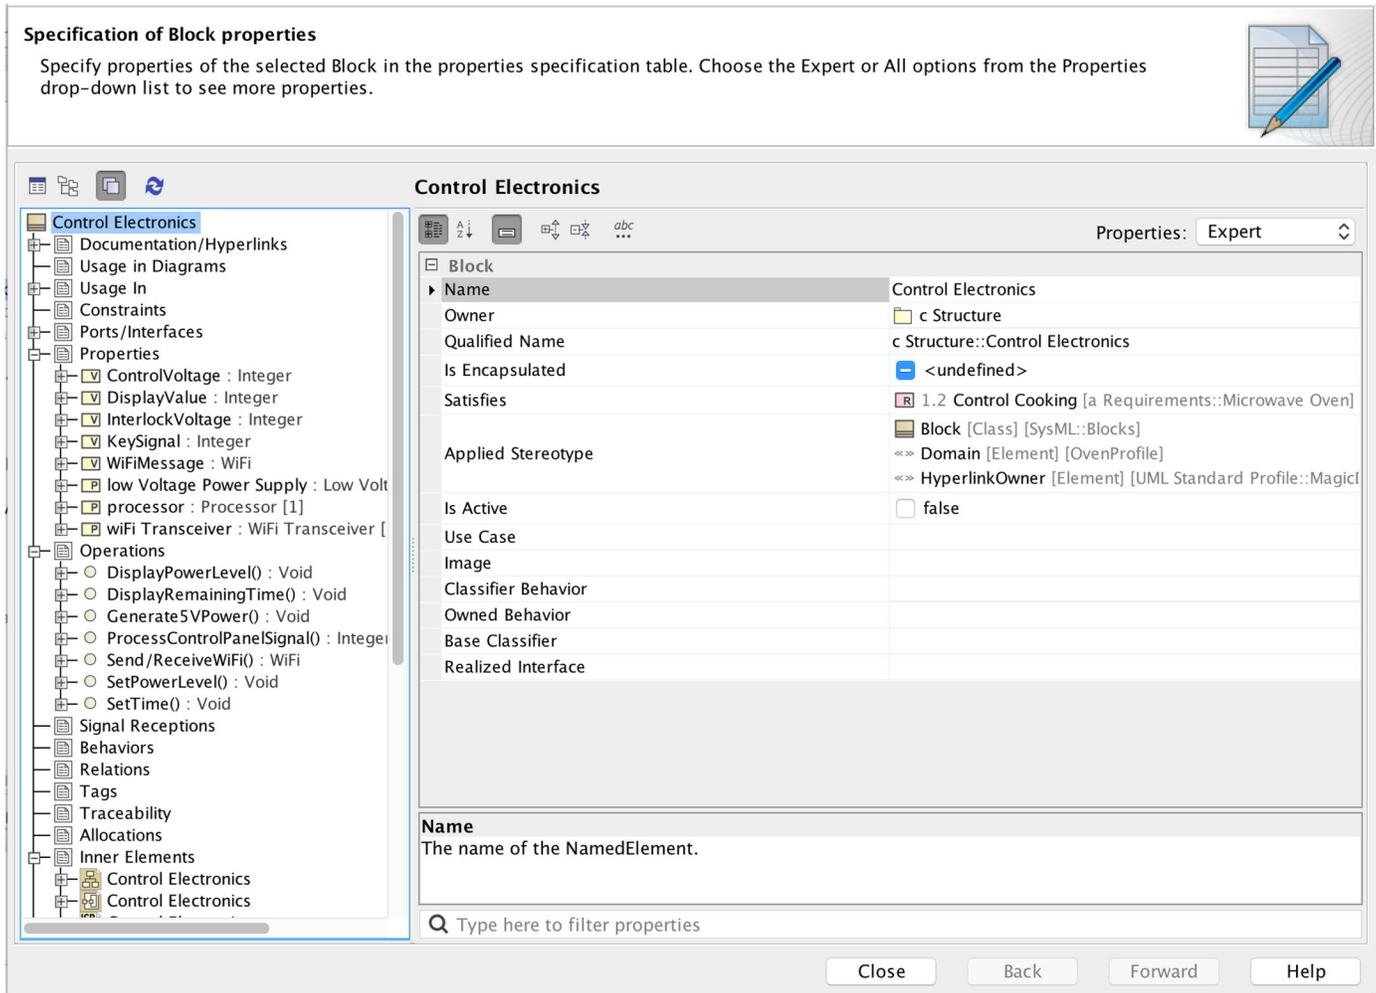

Figure 5. Block Specification for the Microwave Oven Control Electronics
D. Element Specifications - every Element has a specification where its characteristics are captured, and where most can be created or changed. The specification is complex and unique to each Element type because it faithfully implements the full detail of SysML. Fig. 5 shows a Block Specification for the microwave oven example.